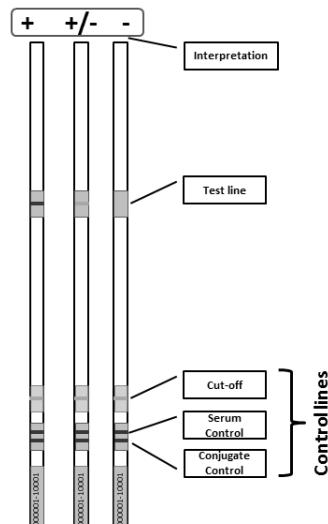

Figure 1: Schematic of reacted LIA strips with one test line.
- The test lines are placed above the cut-off, serum and conjugate control lines as described in the schematic (Figure 1). Serum and conjugate control lines appear on the same piece of nitrocellulose at the bottom of the strip.
- As labeled in Figure 1, the serum and conjugate control lines should be clearly positive indicating a successful experiment. The cut-off is a faint line with variation in intensity based on the experimental conditions. The schematic in Figure 1 shows an example test line. In the ANA Advanced LIA (Figure 2) there are 22 test lines and 3 control lines. The test line development depends on the sample. Positive reactions can occur in varying intensities from weak to strong. **Weak reactions should be compared with intensity of the provided cut-off line within the strip.** Reactions that are distinctly darker or denser than the intensity of the cut-off line should be considered positive.